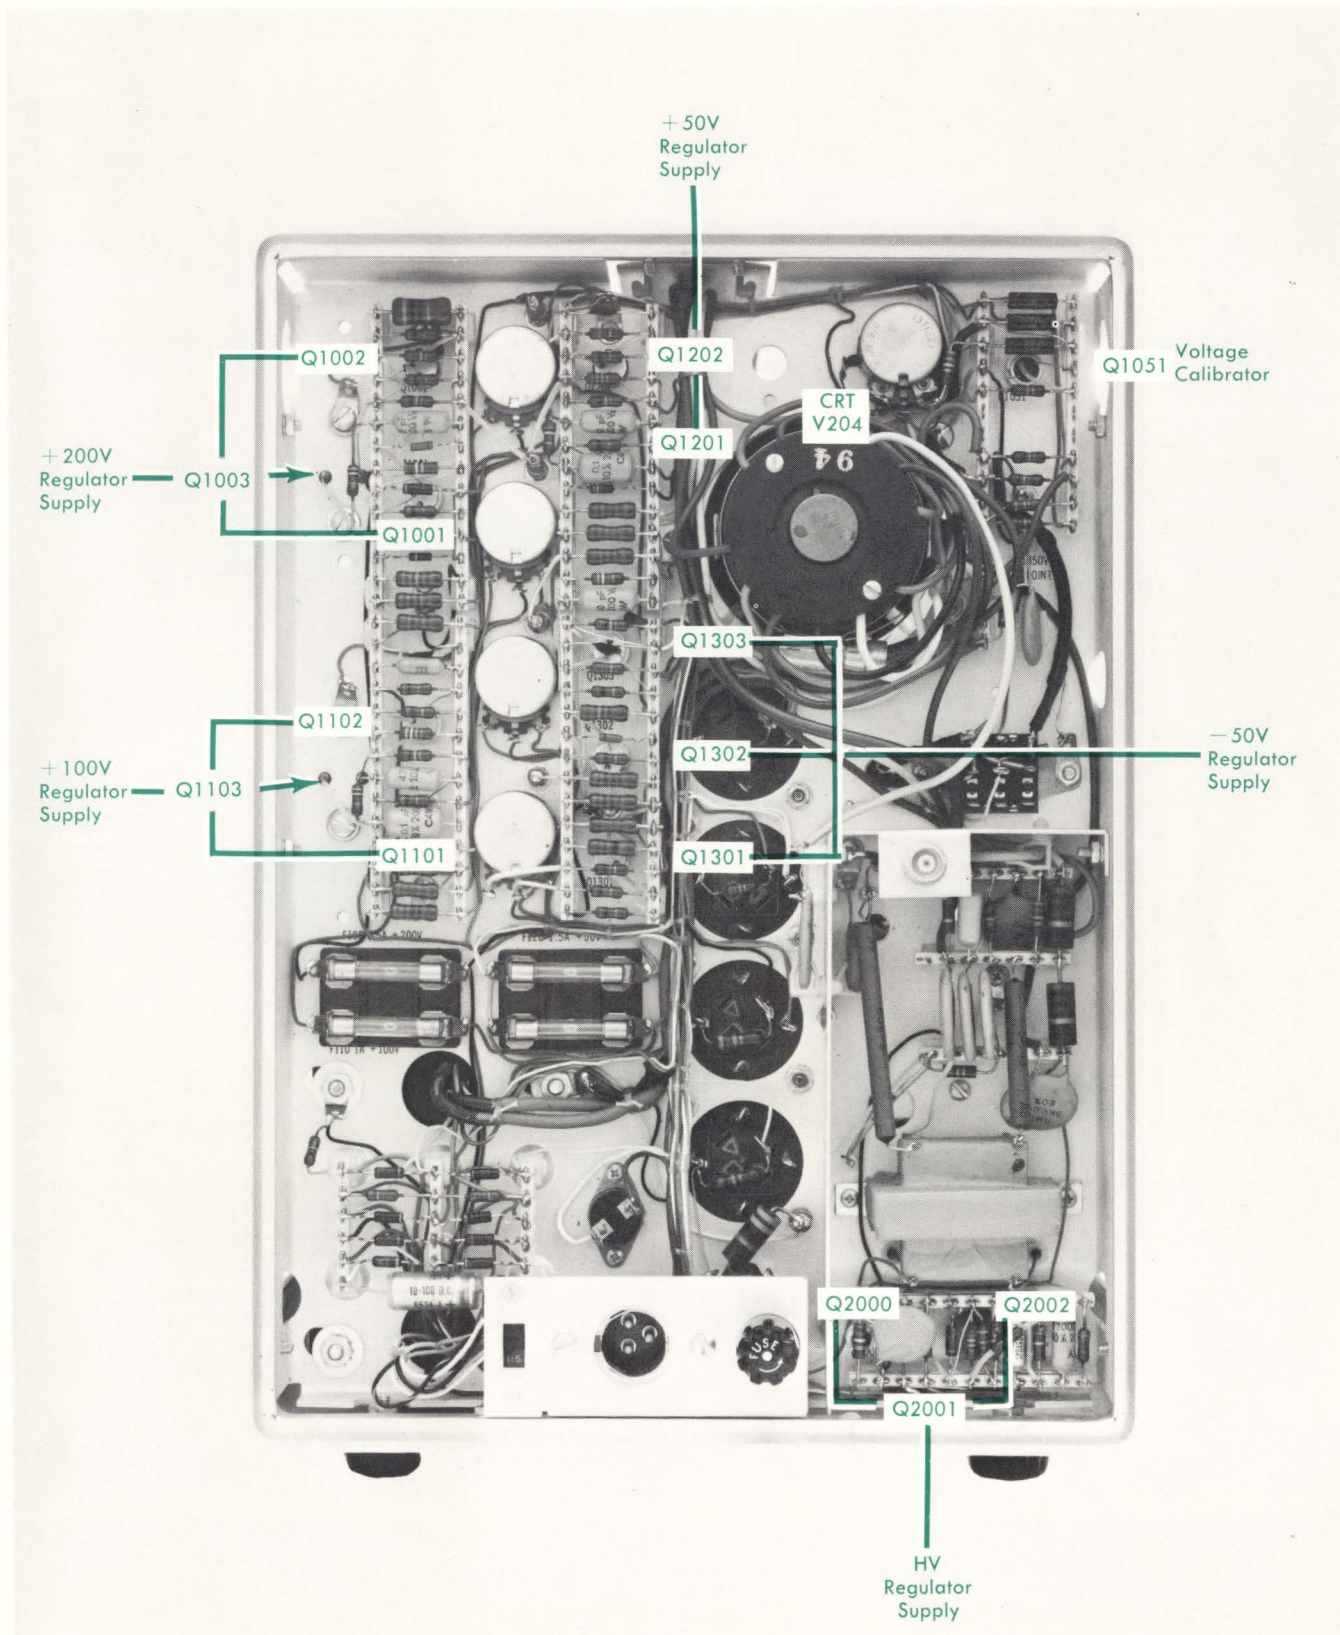

Figure 5-2. Type 766, Rear View Showing Transistors and CRT
1. If the instrument fails to operate, including the pilot light, check the source of power and determine that the power cord is firmly in place. Then check fuses located at the rear of the instrument. (See Figure 5-2.)